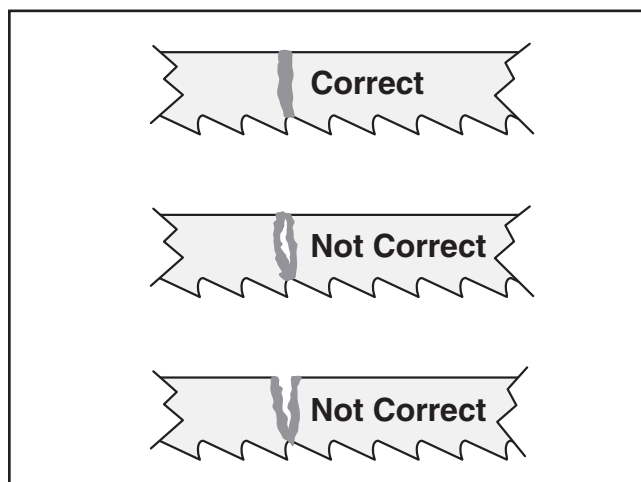

Figure 47. Blade welding joint examples.
12. Inspect the weld. The welded joint should be even across the width of the blade with no gaps (see **Figure 47**).